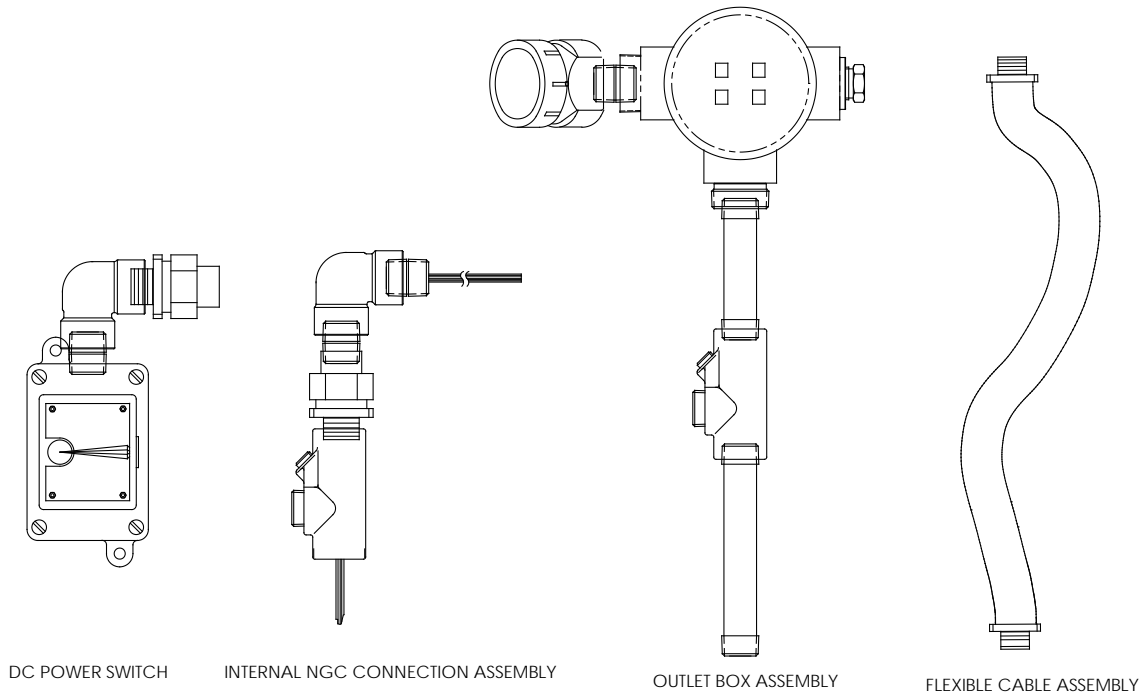

Figure 3-28 Power Communication Outlet Box Assembly
- 3) Beginning with the internal connection assembly (see Figure 3-28), feed the 13" wire bundle (elbow end of assembly) through the open hub. Continue to pull wire past the terminations until the nipple fitting is in position to screw into the hub.